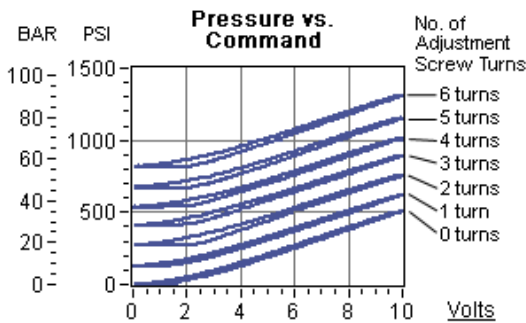

Figure 3.
- ◊ “L” control, which allows a minimum or offset reduced pressure to be set with no signal present. *(However, the offset pressure will effectively increase the maximum setting of the valve. See Figure 3.)*